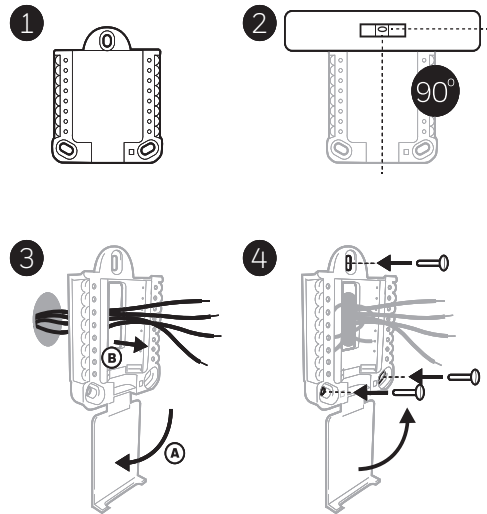

Fig. 7.
1. Open package to find the UWP. See Step 1 in Fig. 7.
2. Position the UWP on the wall. Level and mark hole positions. See Step 2 in Fig. 7. Drill holes at marked positions, and then lightly tap supplied wall anchors into wall using a hammer. Drill 7/32" holes for drywall.
3. Pull the door open and insert wires through the wiring hole of the UWP. See Step 3 in Fig. 7.
4. Place the UWP over the wall anchors. Insert and tighten mounting screws supplied with the UWP. Do not over-tighten. Tighten until the UWP no longer moves. Close the door. See Step 4 in Fig. 7. Use 3x supplied screws #8 1-1/2".